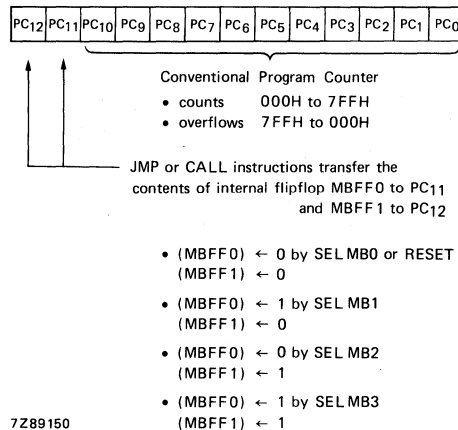

Fig. 20 Program counter.
**Program counter (see Fig. 20)**
The 13-bit program counter is able to address 8 K bytes of ROM. The arrangement of the bits is shown in figure 20. During an interrupt subroutine PC11 and PC12 are forced to logic 0. All 13 bits are saved in the stack during CALL and interrupt routines.